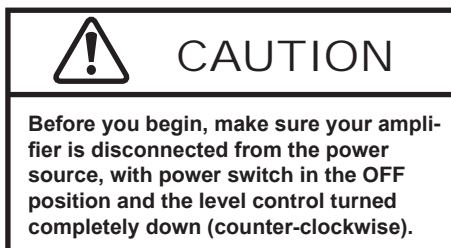

Figure 7.1 – Amplifier cover removed for inspection
5. Inspect the amplifier's internal components (see **Figure 7.1**). Check the following: